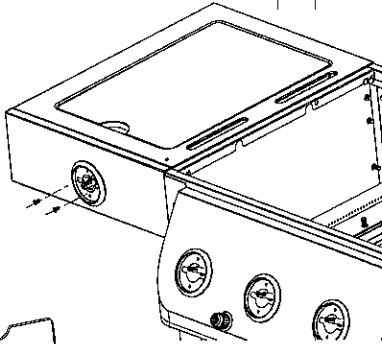

Fig.11B
Refer to Fig. 11B – Position the valve in place between the front panel of the Side Burner and the inner wall. Align the threaded holes in the valve with the holes in the Side Burner Housing and attach the valve using the (2) M4x6 screws that were removed earlier.